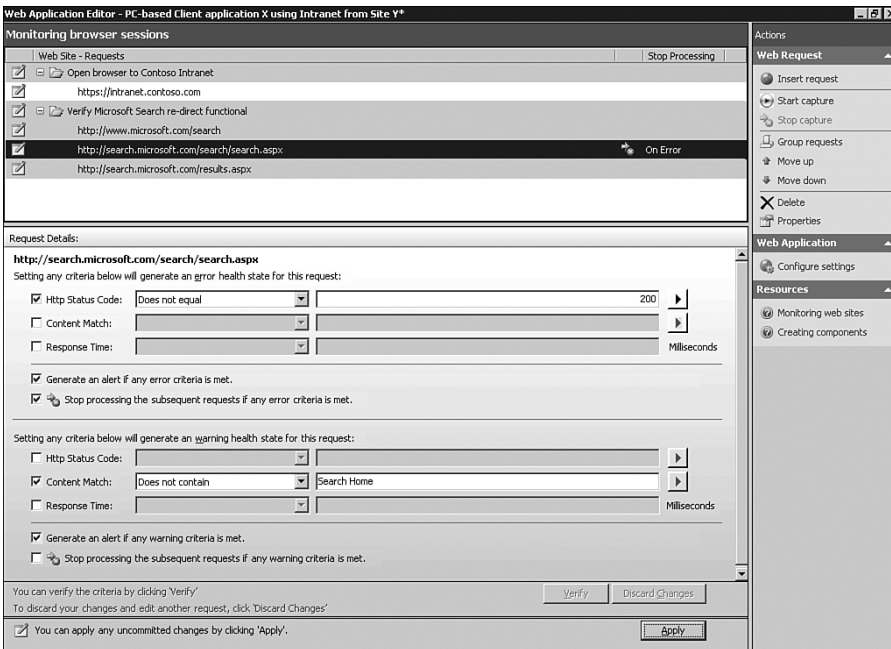

FIGURE 23.20 The OpsMgr 2007 Web Application Monitoring Editor is a full-featured authoring environment.
- ▶ Checking Configure Advanced Monitoring and selecting Create opens the Web Application Editor displayed in Figure 23.20.
In Figure 23.20, the highlighted URL at [search.microsoft.com](http://search.microsoft.com) has secondary alert criteria specified in the lower central portion of the Web Application Editor. As shown in the Request Details section, an error state (actually displayed in red) exists when the HTTP Status Code is not the expected and normal 200. If the HTTP Status Code is 200, request processing continues, and a warning state (displayed in yellow) exists if the words “Search Home” are not found on the page. (The actual Microsoft Search page at the redirected site contains the words “Search Home.”) This second check verifies not only that the redirection is taking place but also that users are able to access the correct web page.
As a final step, we can add custom monitor error criteria to our <http://search.microsoft.com> website request. The monitor examines custom criteria after it performs the primary checks specified in the Request Details area in Figure 23.20. In our example we want to make sure not only that users can get to the correct page at [search.microsoft.com](http://search.microsoft.com) but also